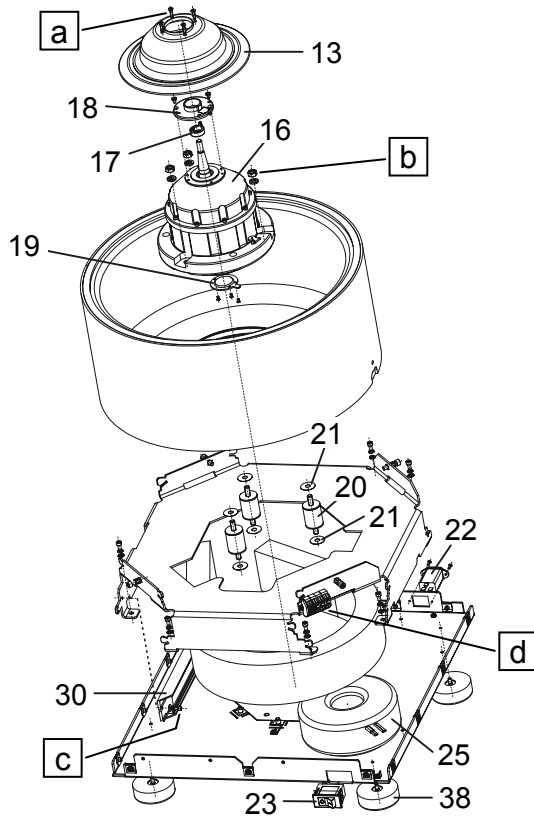
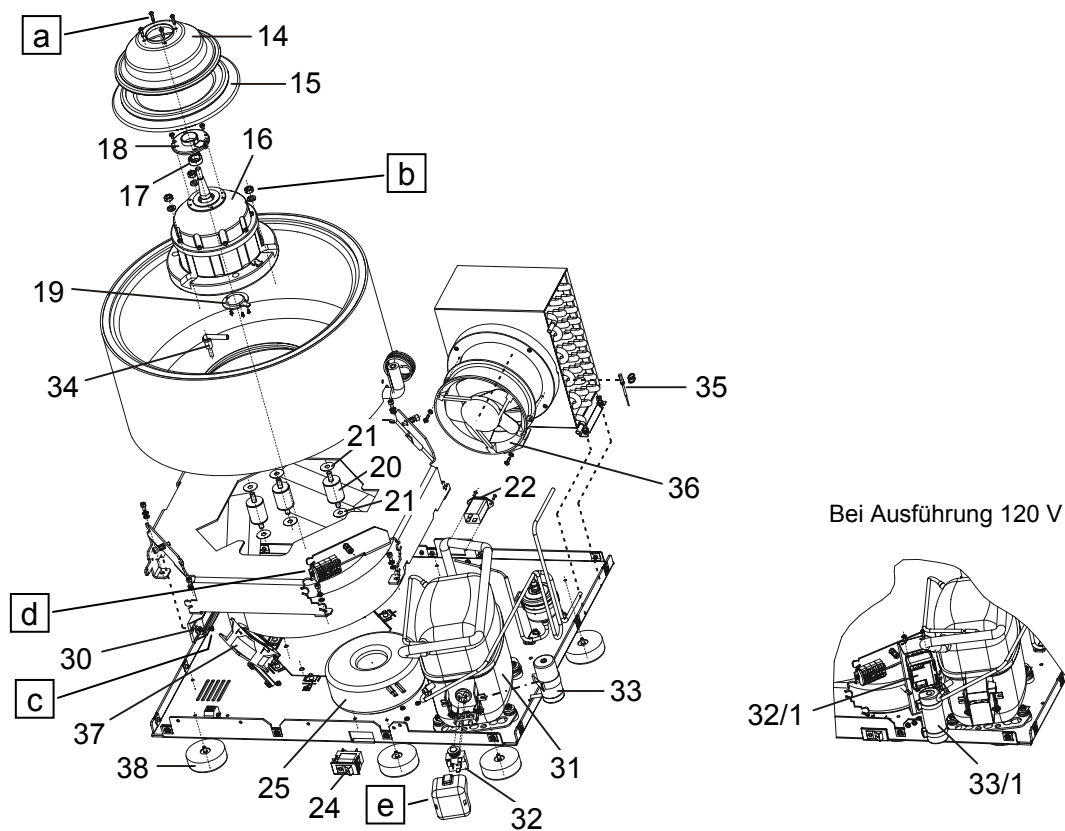

Fig. 3
Fig. 5
- Undo the 4 screws (pg. 77, Fig. 3, a ; pg. 78, Fig. 5, a) on the motor cover and remove the motor cover.
- In centrifuges with cooling, remove the rubber packing (pg. 78, Fig. 5, item 15) between the motor cover and the centrifuge chamber.
- Unscrew the speed sensor (pg. 77, Fig. 3, item 18 ; pg. 78, Fig. 5, item 18) from the upper end plate of the motor (2 screws) and place it in the centrifuge chamber.
- Unscrew the 3 nuts (pg. 77, Fig. 3, b ; pg. 78, Fig. 5, b) on the lower end plate of the motor.
- Unscrew the speed sensor / imbalance sensor (pg. 77, Fig. 3, item 19 ; pg. 78, Fig. 5, item 19) at the bottom of the motor (3 screws).
While mounting the rubber-metal bearings, make sure that there is an anti-twist device (pg. 77, Fig. 3, item 21 ; pg. 78, Fig. 5, item 21) on both sides of the bearing to prevent it from turning.
- Unscrew the speed sensor (pg. 77, Fig. 3, item 18 ; pg. 78, Fig. 5, item 18) from the upper end plate of the motor (2 screws).